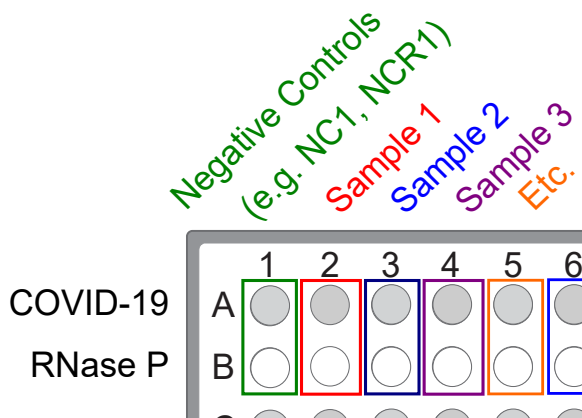

Figure 2 Paired sample and Negative Control wells for each assay
- Unseal the extraction plate, then add the Negative Control from the single well of the extraction plate to wells A1 and B1 of the reaction plate, as shown in Figure 2 on page 52.